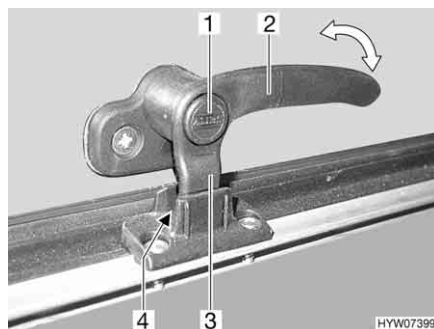
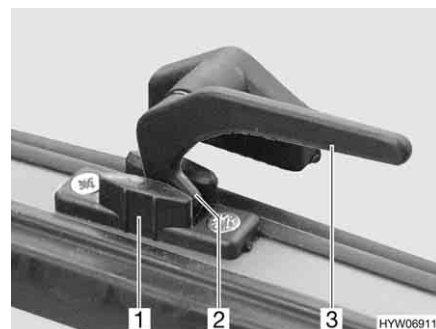

Fig. 97 Catch lever with safety knob in "continuous ventilation" position
Fig. 98 Catch lever in "continuous ventilation" position
- "Continuous ventilation" (Fig. 97 and Fig. 98)
- Press and hold the security button (Fig. 97,1), if present.
- Turn all catch levers (Fig. 97,2 or Fig. 98,3) a quarter turn towards the centre of the skylight.
- Return all catch levers to their initial position. The locking catch (Fig. 97,3 or Fig. 98,2) has to be moved into the recess of the skylight lock (Fig. 97,4 or Fig. 98,1).